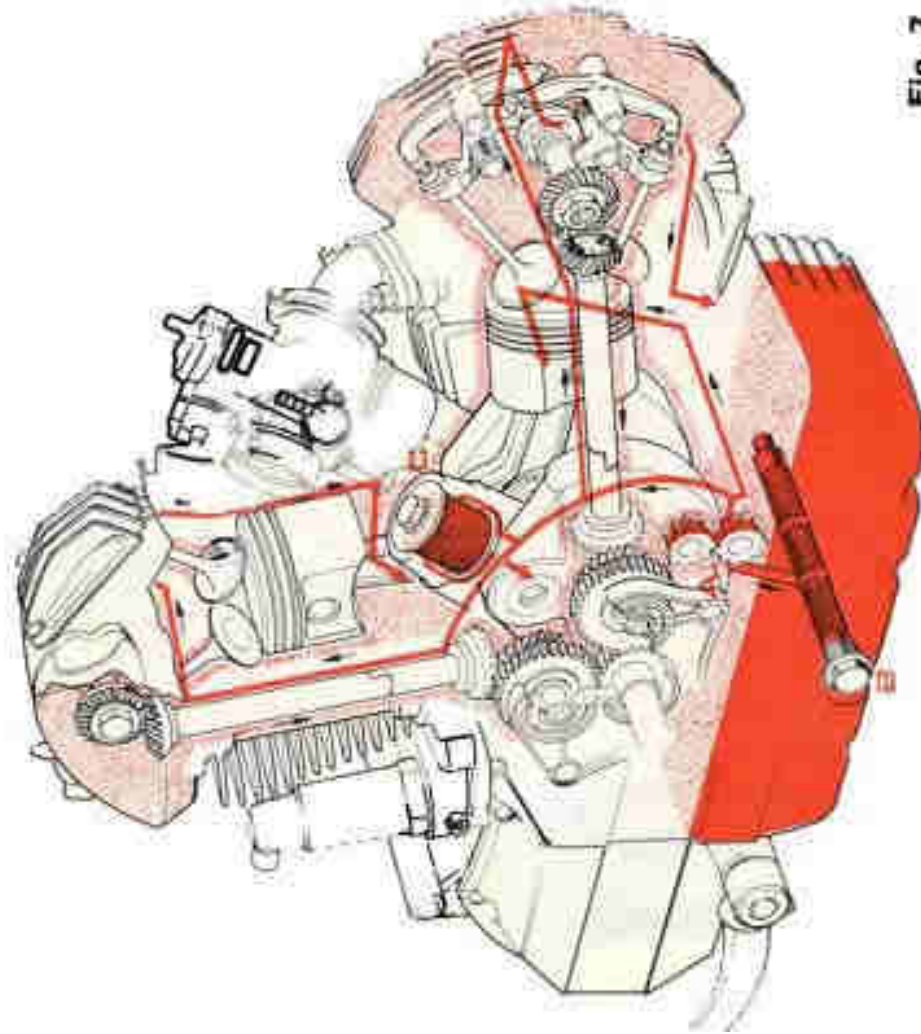

Fig. 7
## LUBRICATION (see Fig. 7)
To drain the oil from the engine crankcase, remove the filter cap (B) (see Fig. 7).